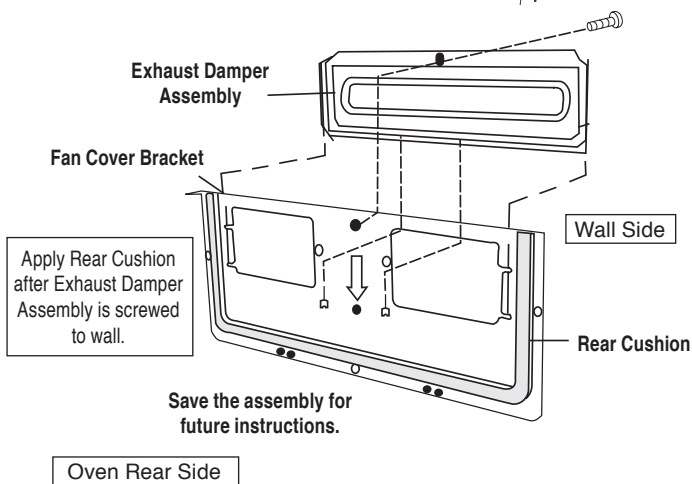

Figure 10B
6. Assemble the Exhaust Damper Assembly to the Fan Cover Bracket by sliding it into the slits in the same direction as the arrow. Use 1 Tapping Screw 4 x 8 mm from the INSTALLATION HARDWARE and tighten into place. See Figure 10B on page 5.